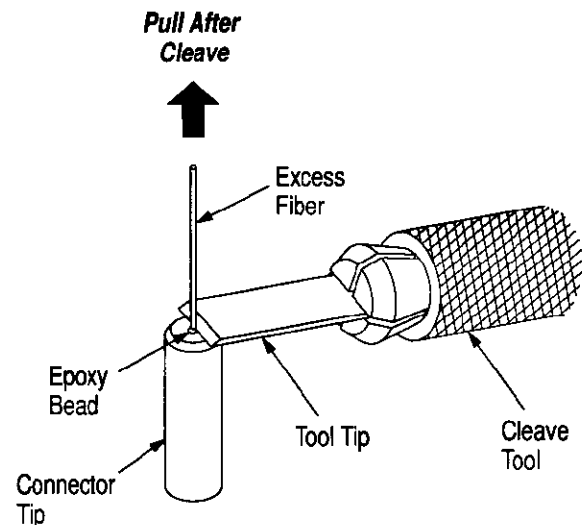

Figure 13
8. After removing the protective sleeve, place sapphire pen cleave tool 504064-1 directly above the epoxy and lightly draw the beveled edge across the fiber parallel to the tip of the connector. See Figure 13. After scoring the fiber, pull it straight away from the connector to complete the cleaving process.